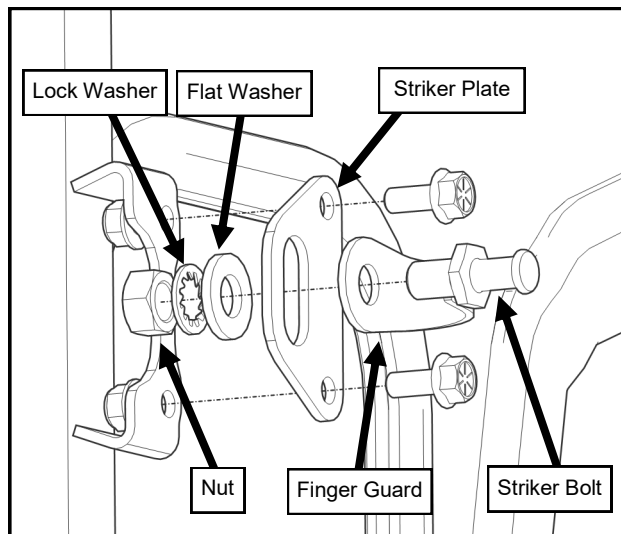
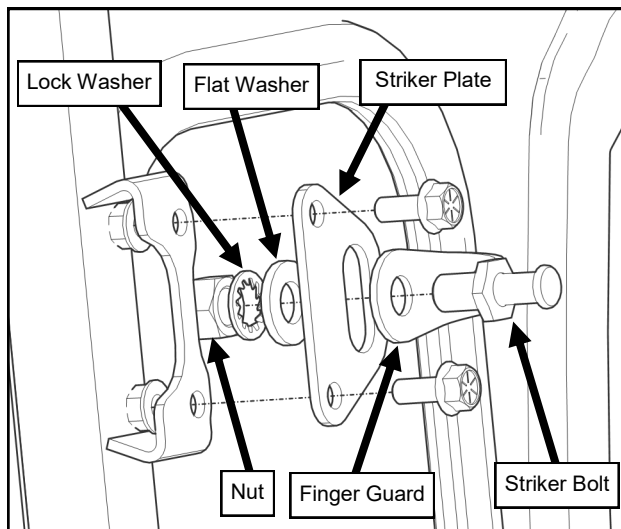

Fig. 19.1A (Door Striker OUTSIDE for Steel Doors)
Fig. 19.1B (Door Striker INSIDE for Vinyl Hinged Doors)
- 19.1** Install the striker plate to the A-pillar mounting bracket with the large slot to the outside for the steel doors (see Figure 19.1A) or to the inside for the vinyl hinged doors (see Figure 19.1B)
- 19.2** Install the striker parts oriented as shown in Figure 19.1A or 19.1B. Note the finger guard should always be oriented toward the inside of the cab.